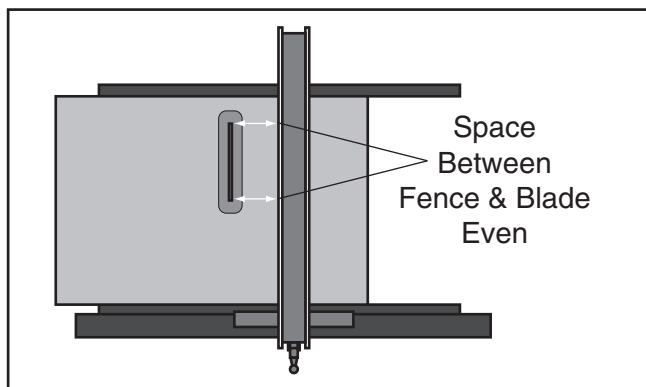

Figure 123. Example of fence aligned parallel with miter slot.
5. Rotate the blade 180° (**Figure 123**), and recheck the distance between the fence and the blade tooth you marked in **Step 4** to ensure they are parallel.